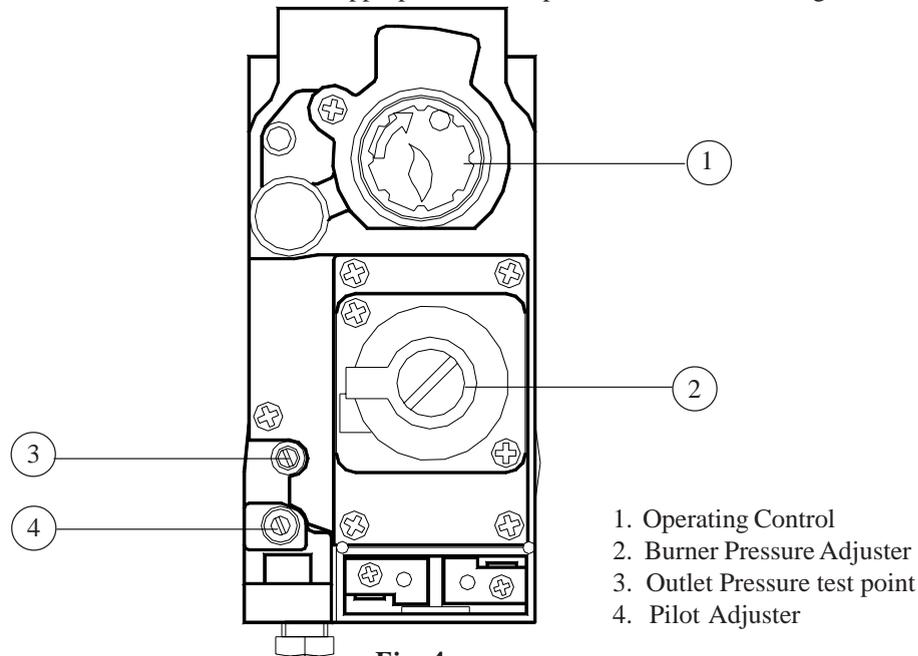

Fig. 4
- 6.3.2 On the Multifunctional Control, remove the Outlet Pressure test point cover, and fit a pressure test gauge (refer fig. 4).
- 6.3.4 Referring to Fig. 4, press and hold the OPERATING CONTROL, and whilst observing the Pilot Burner, repeatedly press the Piezo igniter button until Pilot burner ignites.
- 6.4.1 Referring to Table 4 and Fig. 4 below, ensure that the pressure test gauge indicates the correct burner pressure, resetting if required as follows: